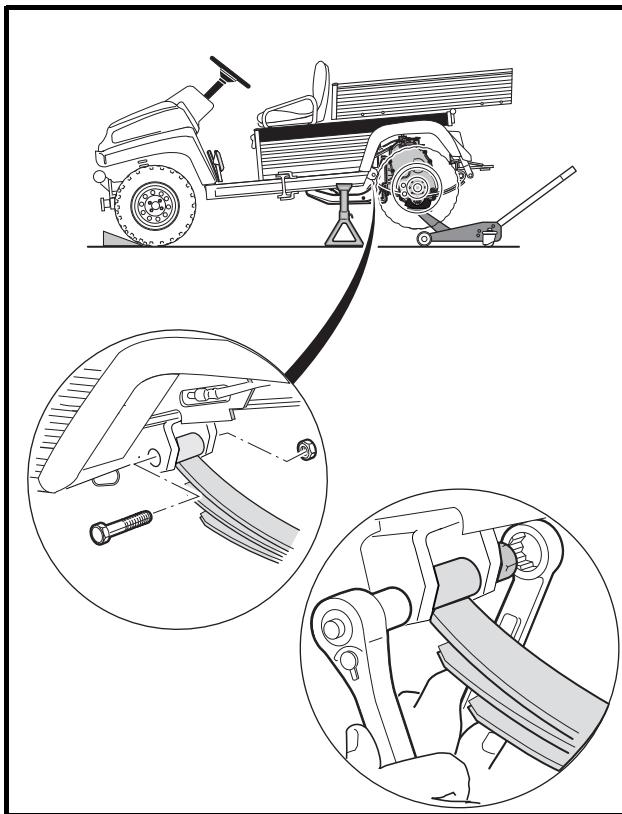

**Figure 16-40 Governor Arm**
9. Loosely install governor lever arm on governor shaft (**Figure 16-40, Page 16-17**). Turn the governor arm shaft counterclockwise until it stops. Pull the governor lever arm rearward until the carburetor throttle is in the “wide open throttle” (WOT) position.
10. Hold the arm and shaft in the fully counterclockwise position and tighten the governor arm lever nut to 35 in-lb (4.0 N·m) (**Figure 16-40, Page 16-17**).